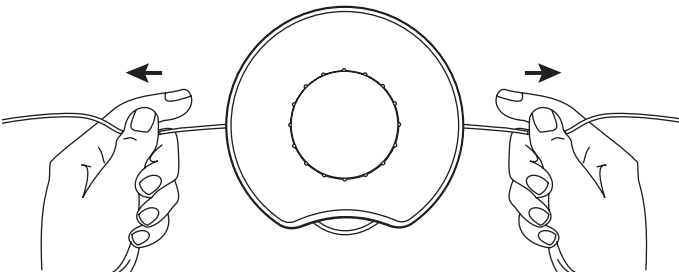

Fig. 18
3. Pull the ends through making sure that the ends are of equal length and the middle of the line is centered between the insertion holes (Fig. 18).